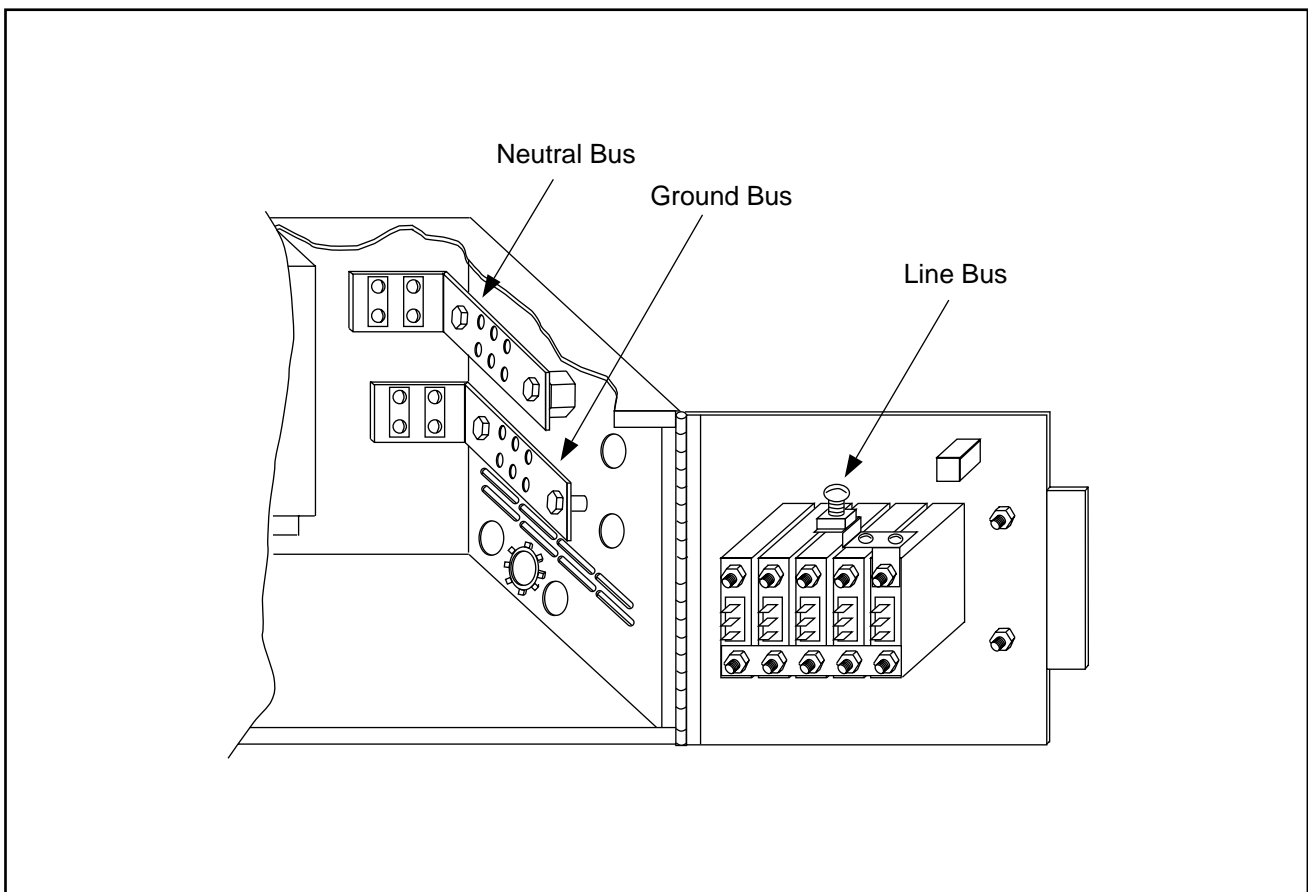

Figure 4-15. AC/DC Distribution Box
7. Connect the L1 (Line 1) wire to AC main breaker bus (line bus) inside AC/DC Distribution Box. The minimum recommended wire size is 8 AWG (type THHN or equivalent.) Refer to Figure 4-15 on page 4-31.